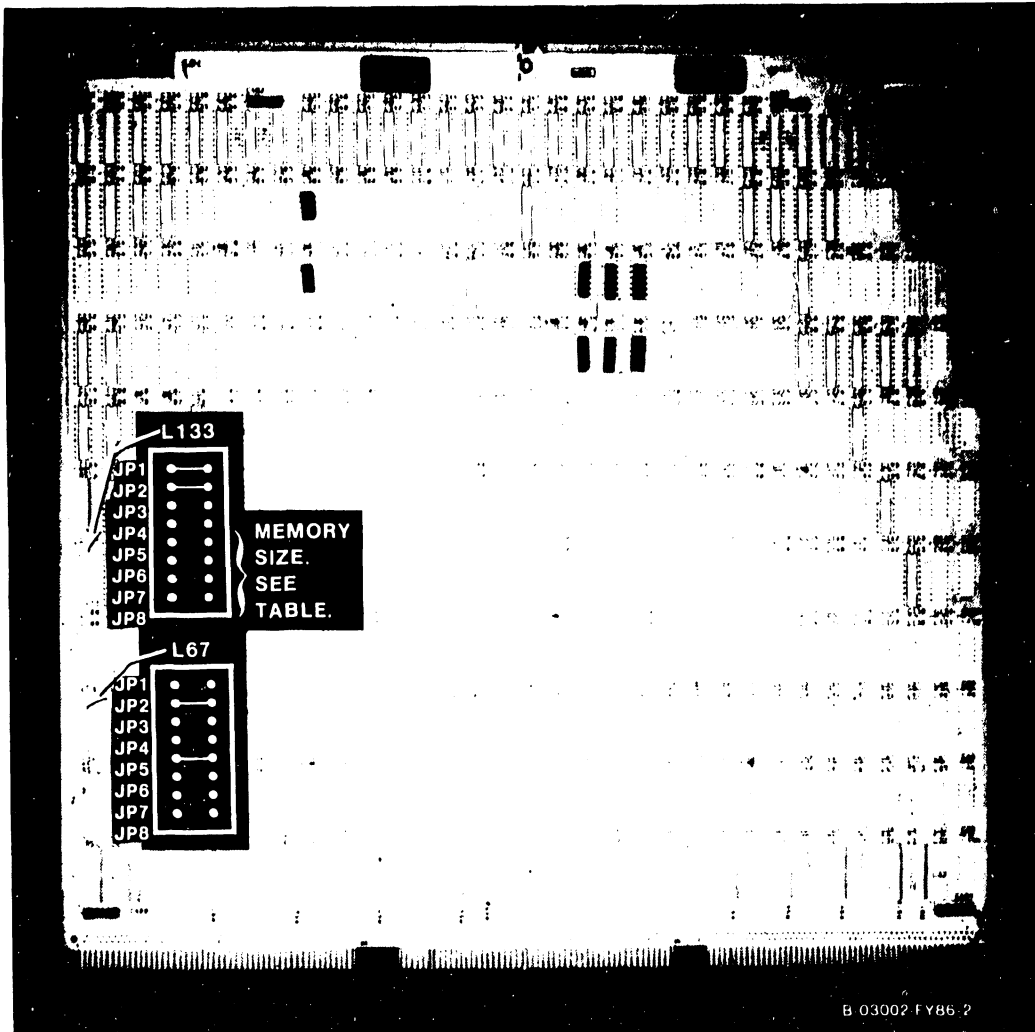

Figure 7-19. 210-9834 Memory Control Unit
1. Remove the Memory Control Unit (MCU) (figure 7-19) from backplane slot #10 as described in paragraph 7.2.4.1. No cables are on the MCU.
2. After checking the MCU System Address ID jumpers at L67, MCU Support Packet Bus Target ID jumpers at L133, and Main Memory Size Selection jumpers at L133 (figure 7-19 and table 7-1), install the new MCU.